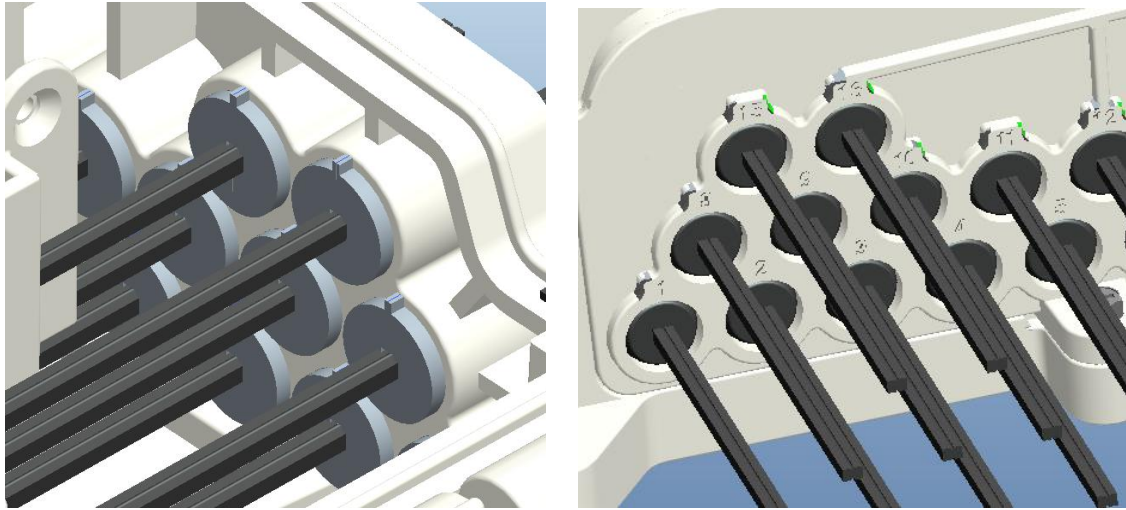

Figure 5
4.4 Make a Field Assembly Connector in the drop cable, and through drop cable out hole into the distribution box, and then plug in the adapter, forming pathway and optical splitter output fiber. Put the drop cable in the cut sealing ring, and then use the drop cable fixing seat fixed. At last, pressed the drop cable sealing ring into the drop cable hole, can ensure the drop cable fixing and sealing. See Figure 5